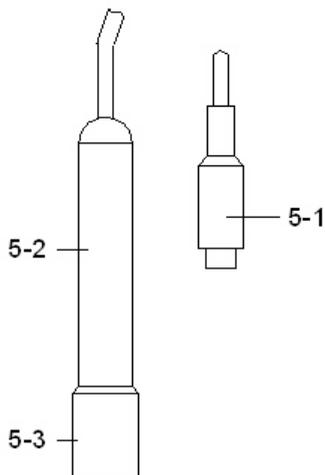

Fig. 3
- 1) Prepare the Conductivity Probe ( optional, CDPB-03 ), install the " Probe Plug " ( 5-1, Fig. 3 ) into the " CD Socket " ( 3-14, Fig. 1 ).
\* Hold the " Probe Handle " ( 5-2, Fig. 3 ) by hand and let the " Sensing head " ( 5-3, Fig. 3 ) immersed wholly into the measured solution. Shake the probe to let the probe's internal air bubble drift out from the sensing head.
- 2) Install the " Probe Plug " ( 5-1, Fig. 3 ) into the " CD Socket " ( 3-14, Fig. 1 ).
- 4) Hold the " Probe Handle " ( 5-2, Fig. 3 ) by hand and let the " Sensing head " ( 5-3, Fig. 3 ) immersed wholly into the measured solution. Shake the probe to let the probe's internal air bubble drift out from the sensing head.